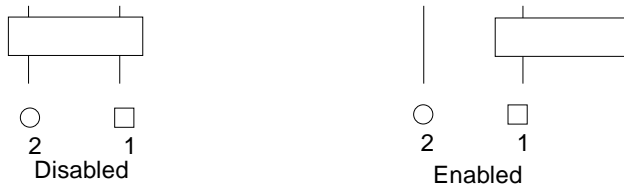

FIGURE 4-20 Disabling and Enabling the Link Integrity Test
- a. **Put the shunt over both pins to *disable* the Link Integrity Test (FIGURE 4-20 “Disabled”)**
- b. **Put the shunt in one pin to *enable* the Link Integrity Test (FIGURE 4-20 “Enabled”).**